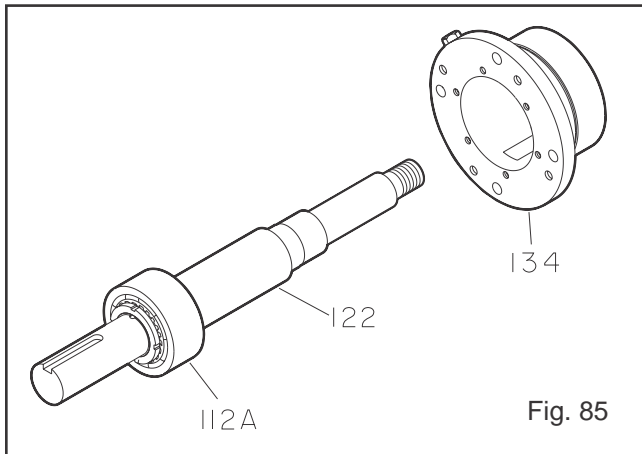

Fig. 85
9. Remove bearing housing (134) from shaft (122) with bearings (112A) (Fig. 85).